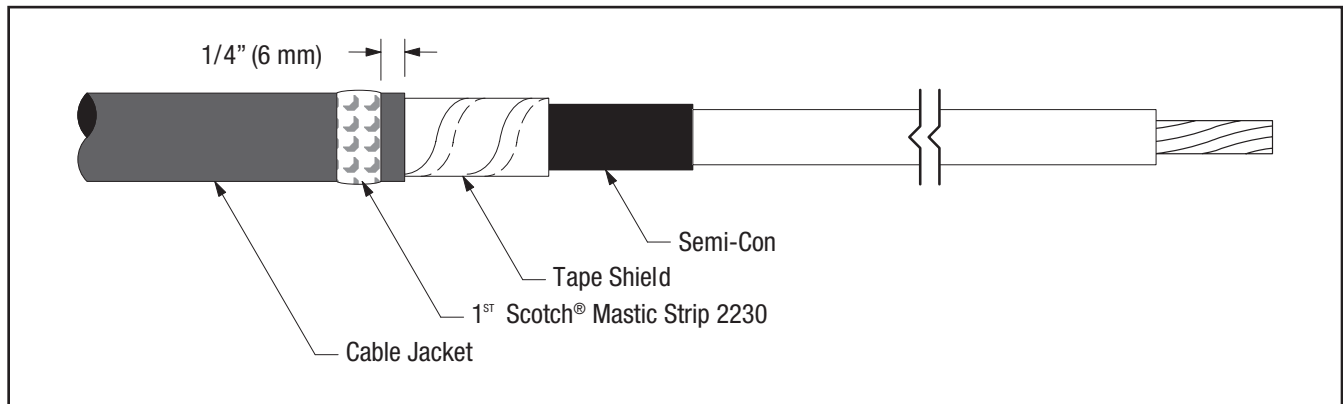

Figure 2
3.1 Select a Scotch® Mastic Strip 2230 from kit and remove white release liners. Using light tension, apply a single wrap of mastic around the cable jacket 1/4" (6 mm) from cut edge (Figure 2). Cut off excess.